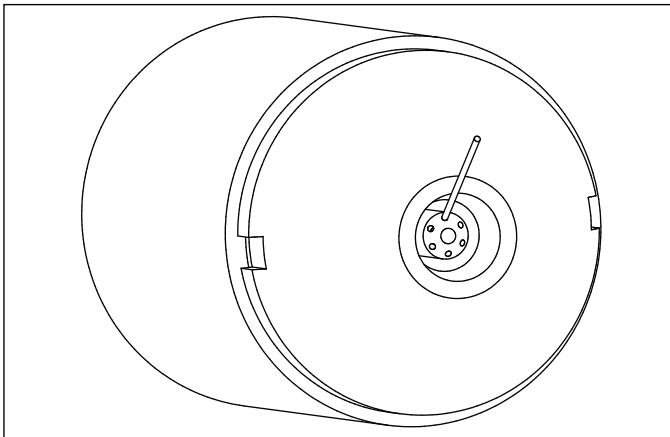

Figure 5.3. Oil Tip Position Adjustment
7. Check the relationship of the oil holes to the nose cone by inserting the specified drill from Table 5.1 into the oil holes as shown in Figure 5.3. The drill's sides should just touch the nose cone's lip. If you have trouble inserting the drill into the oil holes, there are two probable causes: